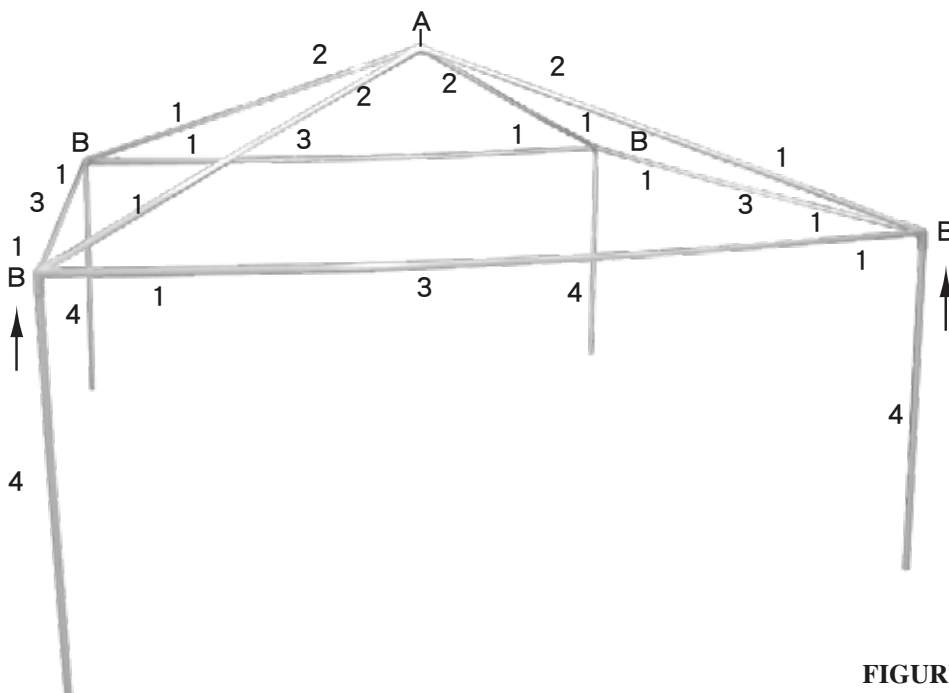

FIGURE 2
ATTACH FRAME TUBE 4 TO SIDE CONNECTOR (B), REFER TO FIGURE 2.